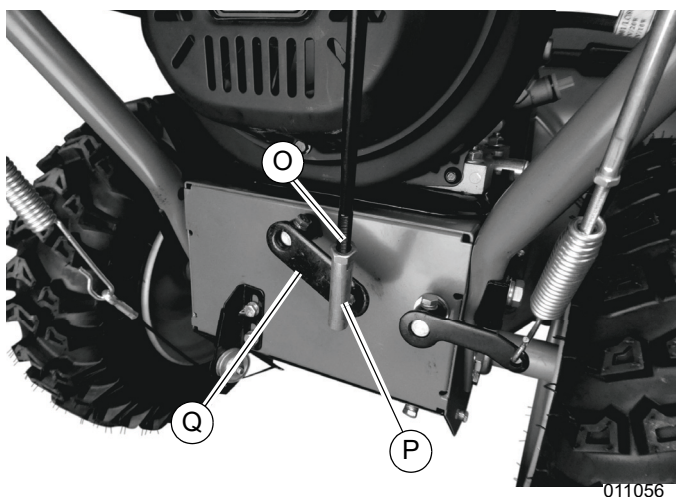

Figure 2-10. Lower Gimbal of Shift Connector Bar
9. See Figure 2-10. Remove locknut from lower gimbal (O) of shift connector bar (P) and insert threads through shift connector (Q).